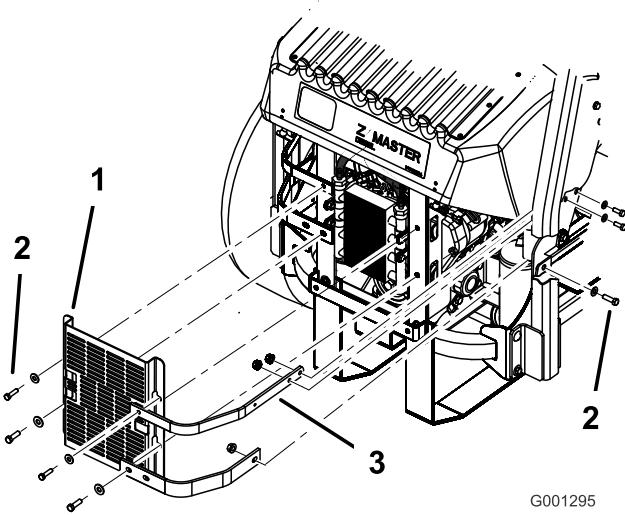

Figure 70
3. Remove the 4 bolts holding the oil cooler shield to the rear frame (Figure 70).
4. Remove the 3 bolts holding the engine straps to the side of the machine (Figure 70).
12. Install the oil cooler shield and engine straps to the rear frame with the 4 bolts previously removed (Figure 70).
13. Install the engine straps to the side of the machine (Figure 70).